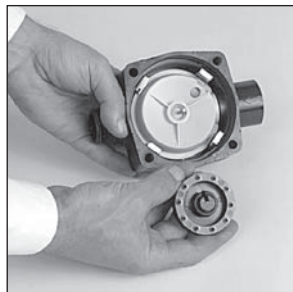

Figure 5
4. Remove the signal generator from the pin on the nutator disc. (Figure 5)